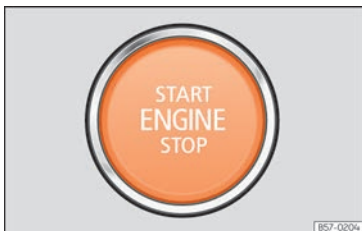

Fig. 158 In the lower part of the centre console: start button.
- Press the starter button »» Fig. 158; do not press the accelerator. There needs to be a valid key inside the vehicle for the engine to start. After starting the engine, the lighting of the **STARTENGINESTOP** button remains fixed indicating that the engine is running.
- *Vehicles with start buttons:* Briefly press the start-up button »» **Fig. 158**.